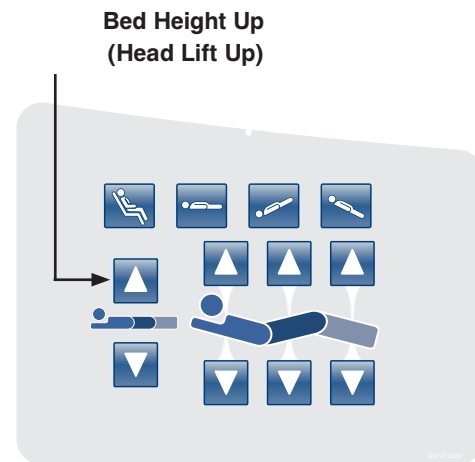

Figure 17: Head Siderail Control Panel - (Right Side Shown)
17. Place the bed at -12 degrees Reverse Trendelenburg by pressing the **Bed Height Up (Head Lift Up)** button as shown in Figure 17. Verify -12 degrees +/- 0.1 with the inclinometer you previously placed on the bottom of the litter frame in step 9.